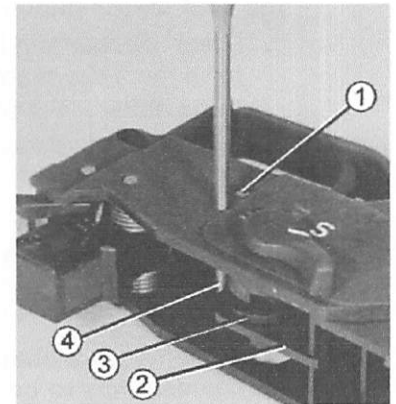

Fig. 57 Replacement of slide
- ⇒ Use drift punch to drive out the cylindrical pin (Fig. 57/4)
**The catch (Fig. 57/3) is no longer laterally guided. It is under heavy spring tension and may spring out.**
- ⇒ Remove the slide (Fig. 57/2) towards the top. To do so, push the catch towards the right.
- ⇒ Place slide with its forward edge behind the cylindrical pin. (Fig. 57/1)
- ⇒ Introduce the cylindrical pin (Fig. 57/4) from the left, and, in doing so, press the right trigger spring downwards with a screwdriver.
- ⇒ The cylindrical pin (Fig. 57/4) has to be even on both sides.